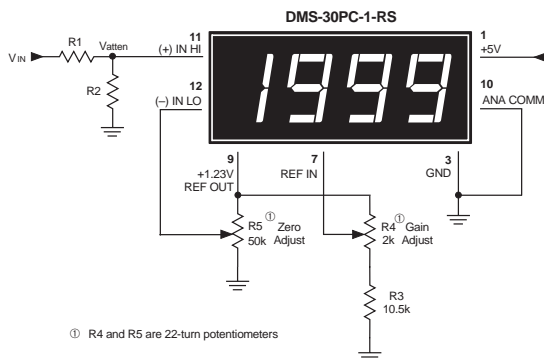

Figure 2. Schematic Diagram
Step 4. Find the null voltage that must be applied to pin 12 (–) INPUT LO, see Figure 2):
When V_{IN} is 1V, $V_{\text{atten(min)}}$ will be 0.08V. It must be nulled by also placing 0.080V on pin 12 (–) INPUT LO) in order to achieve a display reading of "000". The circuit shown in Figure 2 uses a precision 22-turn potentiometer (R5) to generate 0.08V of zero offset.